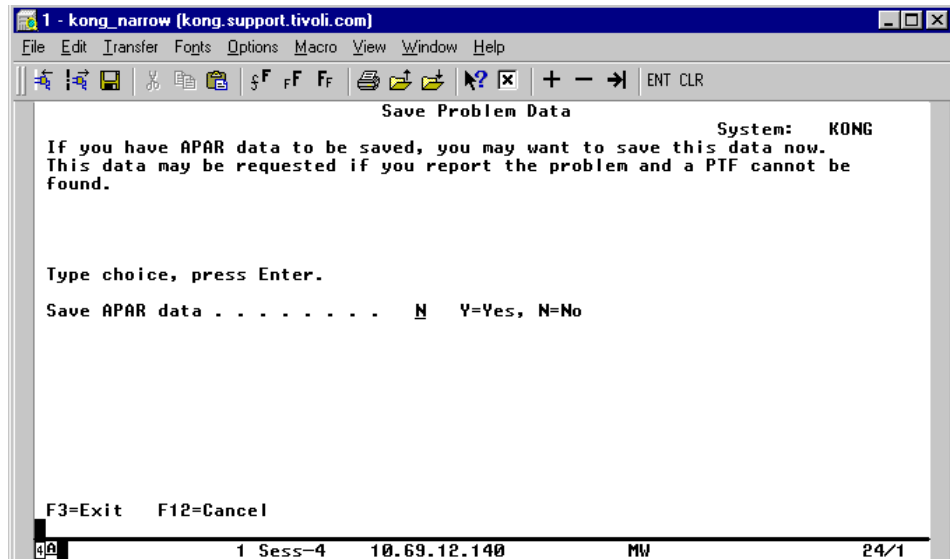

Figure 185. ANZPRB: Save Problem Data
- f. Enter any text you like on this panel, and press **Enter**. This will bring up the Save Problem Data screen shown in Figure 185.